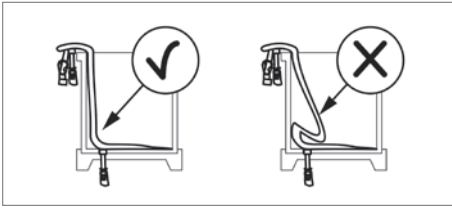

Fig. 15
12. Ensure that the corners of the bag are in contact with the front corners of the Palletank® so that the bag will take the shape of the Palletank®. (see Fig. 15).
- ▷ If possible given the volume in the bag, open the bottom gate, spin the bag 180° around the bottom gate and close the bottom gate. Examine Figures 15 & 16 for proper bag positioning. It is critical that the bottom seam of the bag be along the centerline of the Palletank® for proper deployment.